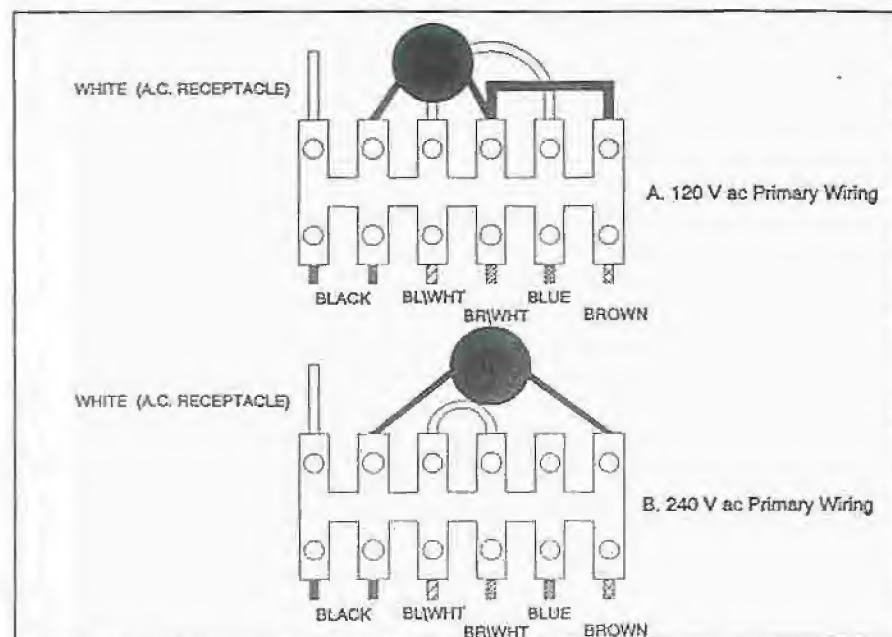

Figure 2 Primary Wiring Configuration for 120 V ac and 220/240 V ac
The amplifier is provided with the primary of the power transformer strapped for 120 V ac operation from the factory. Refer to Figure 2 for the wiring details.
3. Locate terminal block TB1 located behind the AC main power switch. Reconnect the leads as shown in Figure 2.